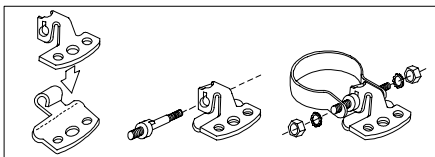

Fig. 2
1. The **Hella FF Series** Lamps come with the bracket already attached. **See Fig. 2** if it is necessary to rotate or flip the bracket to better suit your mounting.